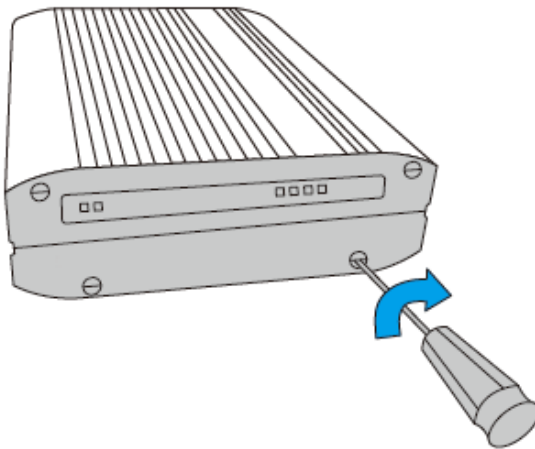

Figure 3-7: HDD Installation
Step 6: Close the front panel and fasten the screws (**Figure 3-7**).